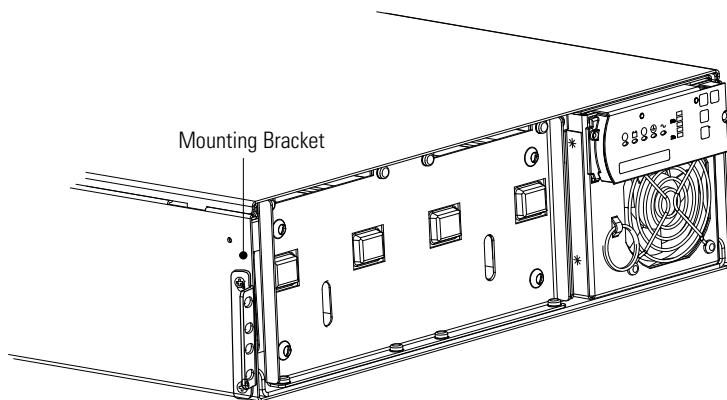

Figure 7. Installing the Mounting Brackets
8. Align the mounting brackets with the screw holes on the sides of the UPS and secure with the supplied #6-32 $\times$ 3/8" flat-head screws (see Figure 7).